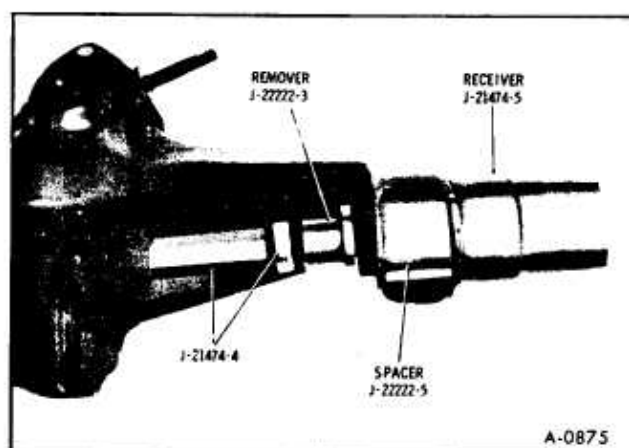

Figure 21—Removing Lower Control Arm Rear Bushing
6. Install Tools through rear bushing and press out bushing as shown in Figure 21.